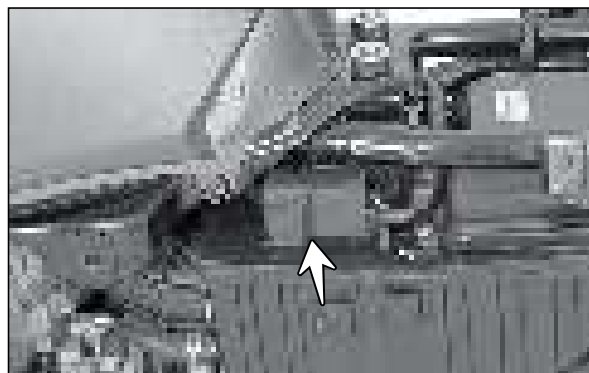

Fig. 6.137
- Dislocate the starter relay from the air filter assembly. (Fig. 6.137)